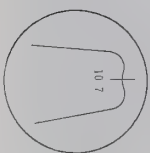

Figure 15
(1) RF Amplifier
(2) First IF Amplifier
- Set the frequency of the sweep generator to 10.7 MHz and apply its output. Adjust T101 until the scope pattern illustrated in Fig. 15 is available.